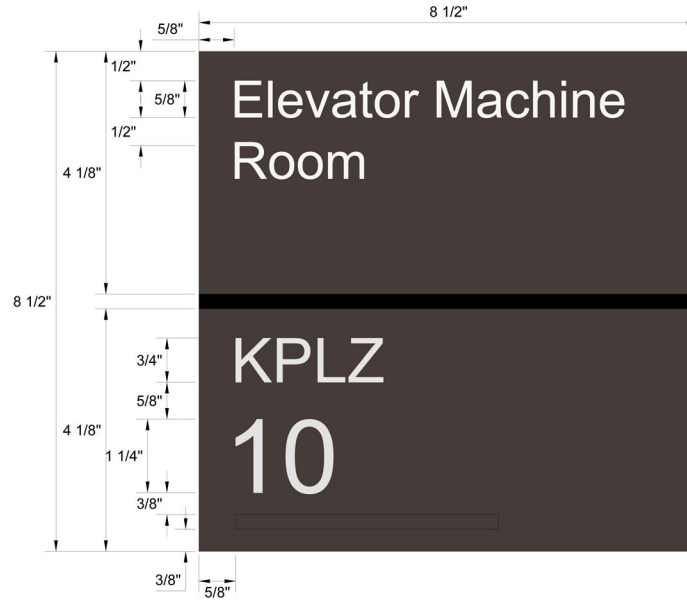

Figure 11.9
- 11.9. UMD A4 sign elevation shall comply with figure 11.9.